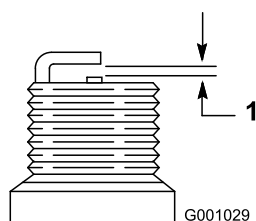

Figure 58
7. Set the gap between the electrodes on a new spark plug at 0.030 inch (0.76 mm) (Figure 58).